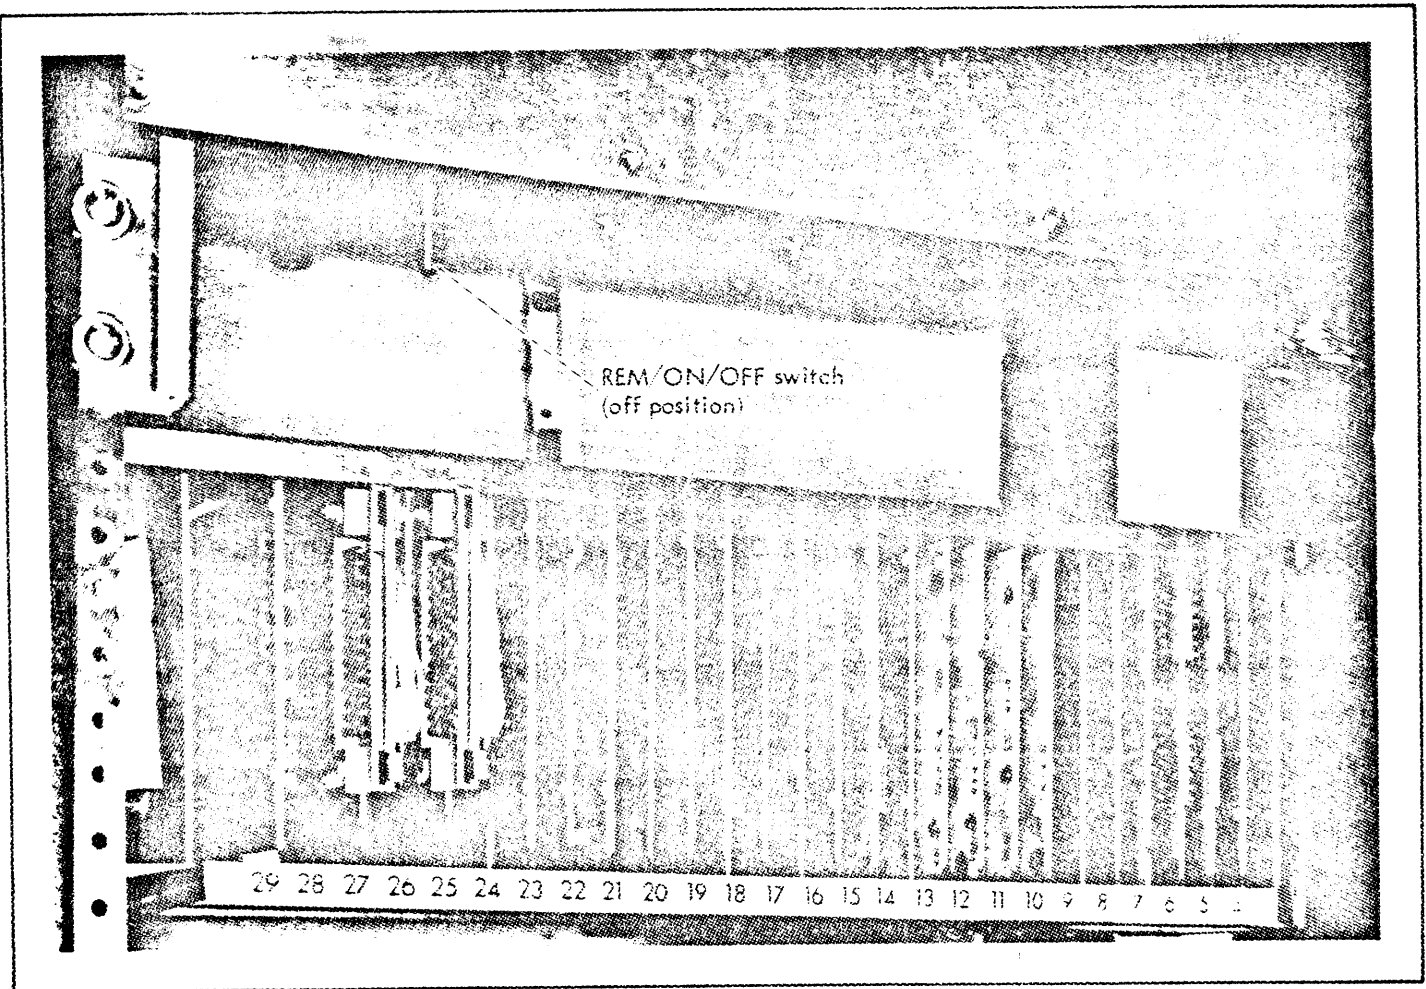

Figure 16. Power Distribution Panel
1. Set the REM/ON/OFF switch on the Power Distribution Panel to ON (see Figure 16) in order to turn on the a. c. power to the system. The Power Distribution Panel is inside the equipment cabinet, above the multiple-drive selection unit.
3. Set the REM/ON/OFF switch on the Power Distribution Panel to OFF (see Figure 16) in order to turn off the a. c. power to the system. The Power Distribution Panel is inside the equipment cabinet, above the multiple-drive selection unit.